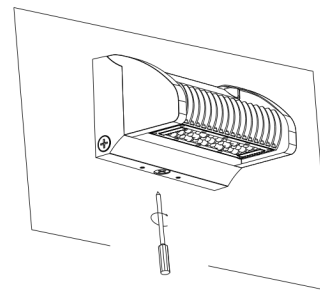

Figure 1-5
- 5.Fix the luminaire on the bracket and tighten screws on the bottom. (Figure 1-5)